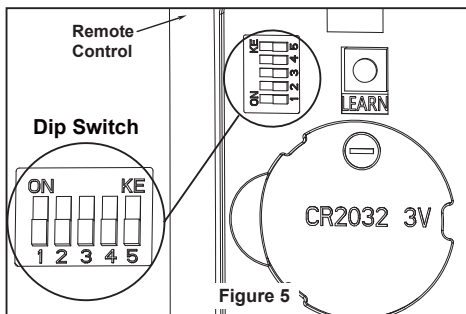

Figure 5
- ☐ **4.** After connections have been made and put the white and green leads to one side and the black/white leads towards the other side, the connection should be turned upward and carefully push leads into the outlet box. The wires should be spread apart with the grounded conductor and the equipment-grounding conductor on one side of the outlet box and the ungrounded conductor on the other side. (Figure 5)
- ☐ 5. To set the remote code with a small screwdriver or ball point pen (neither included), slide dip switches firmly up or down. (Figure 5)